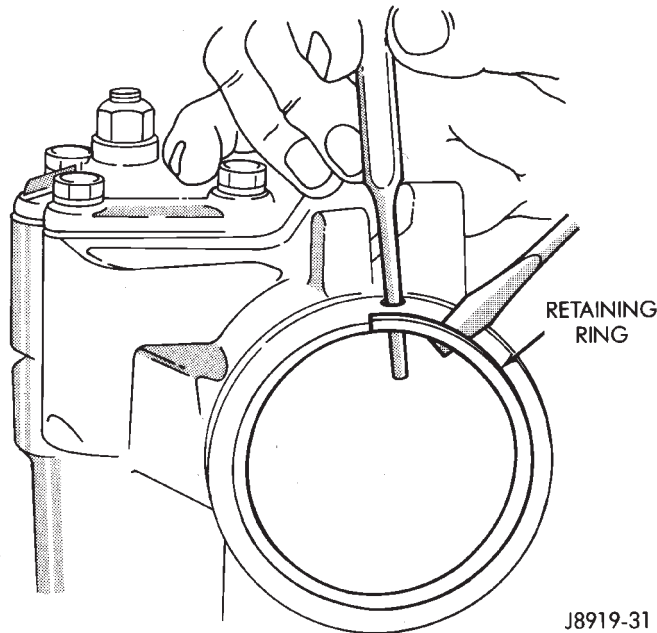

Fig. 5 End Plug Retaining Ring
(1) Unseat and remove retaining ring from groove with a punch through the hole in the end of the housing (Fig. 5).